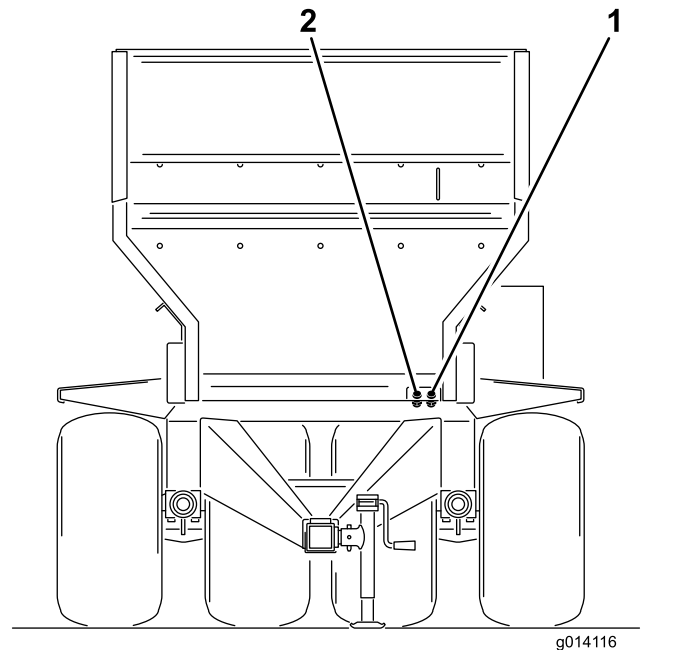

Figure 20
6. Connect the 2 hydraulic hoses from the machine to the tow vehicle. Facing the front of the machine, connect the right hose to the pressure side and the left hose to the return side (Figure 20). The return hose has an in line 1-way check valve. The arrow on the check valve should face the tow vehicle return connector.